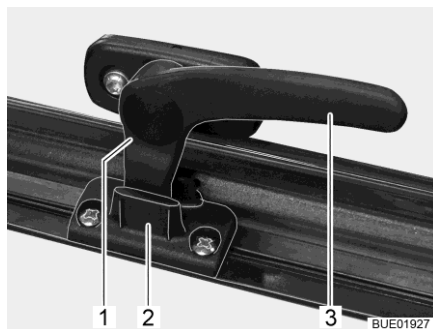

Fig. 23 Catch lever in "continuous ventilation" position
- "Continuous ventilation" (Fig. 23)
- Turn the catch lever (Fig. 23,3) a quarter turn towards the centre of the window.
- Turn the catch lever a quarter turn towards the window frame. The locking catch (Fig. 23,1) has to be moved into the recess of window catch (Fig. 23,2).